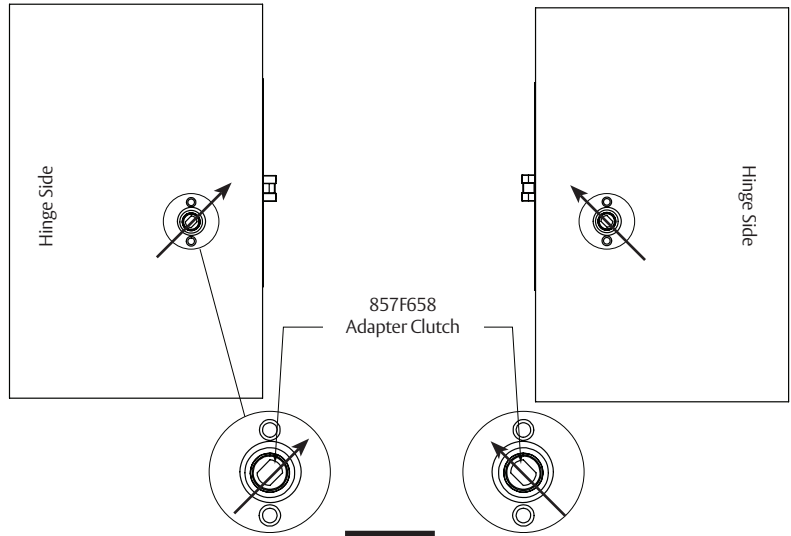

Figure 19
1. Install adapter clutch into mortise lock hub. (Figure 19)